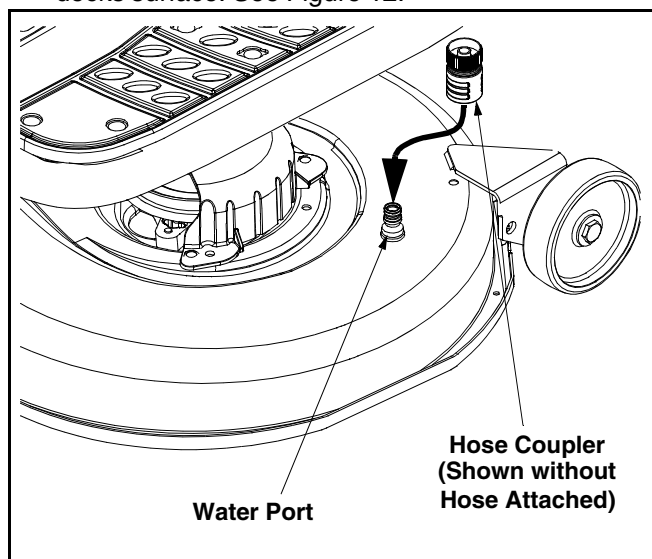

Figure 12
4. Attach the hose coupler to the water port on your decks surface. See Figure 12.